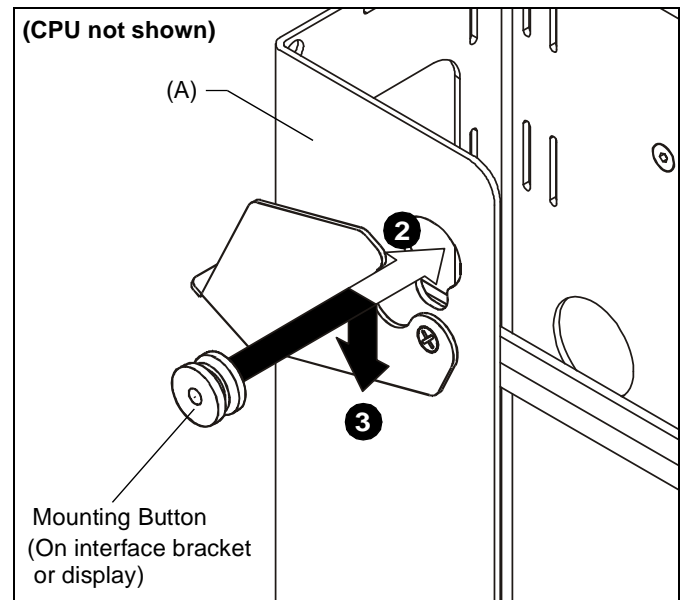

Figure 6
2. While supporting each side of display, align four mounting buttons on display or interface bracket with four teardrop slots in CPU adapter (See Figure 6).
3. Lower display firmly into place. (See Figure 6)